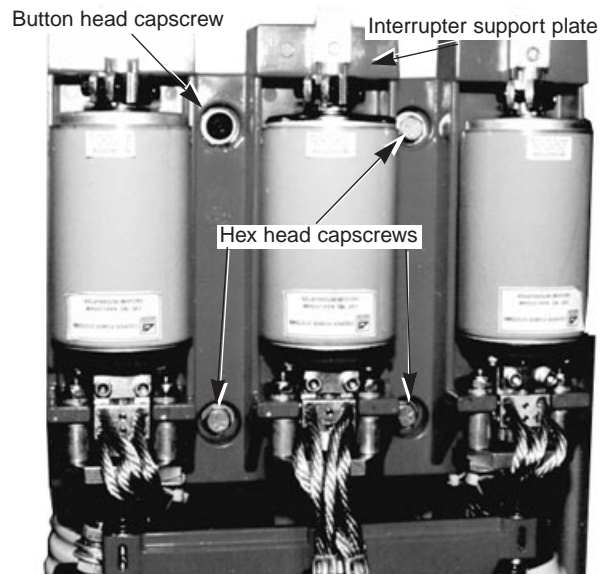

Figure 10.
1. **One at a time** replace the four hex head capscrews holding the interrupter support plate with the four button head capscrews (refer to Figure 10).